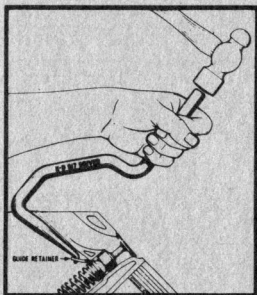

FIGURE 1
2. Place No. 917 Driver in the position shown in Fig. 1, with hook end of tool engaged in the hole in guide retainer. Allow lower spring retainer to remain in place. Strike the